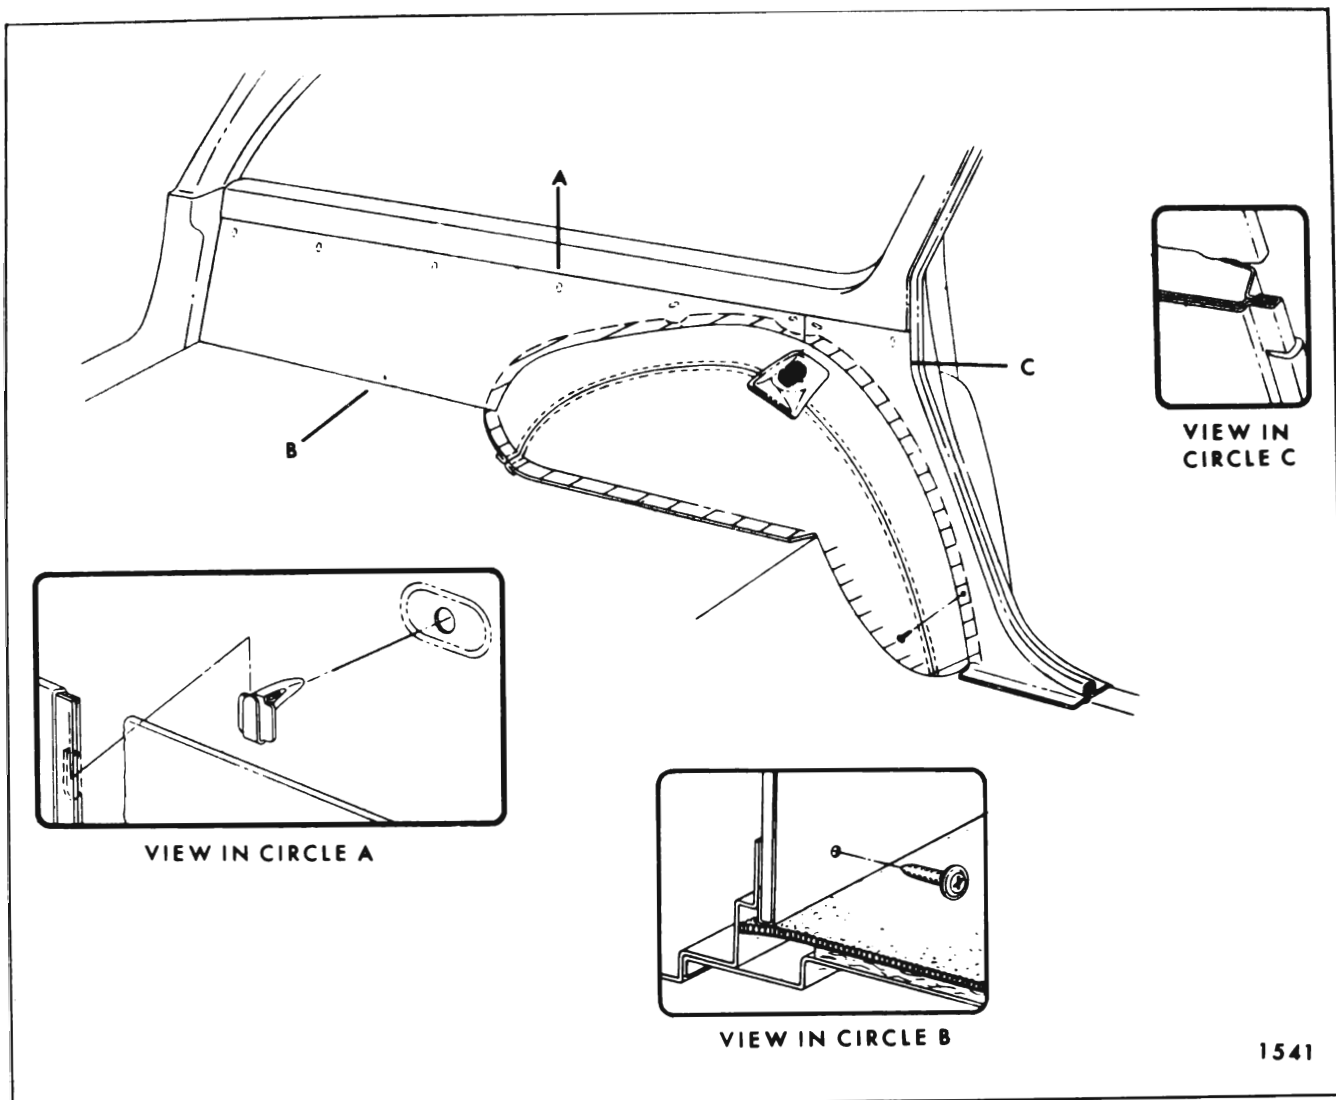

Fig. 14-37—Rear Quarter Trim Panel, Left Side - "A" Station Wagons
5. To install, reverse removal procedure. Prior to installation of pinchweld finishing strip, cement forward edge of trim assembly to out-board surface of body lock pillar pinchweld flange (see View "C" in Fig. 14-37).
1. On "35" styles, remove exposed screw at bottom center of panel (see View "B" in Fig. 14-37).
2. Working from front to rear (with a flat-bladed tool) disengage trim retaining clips from plastic sealing plugs along upper edge of rear quarter rear trim panel (see View "A" in Fig. 14-37).